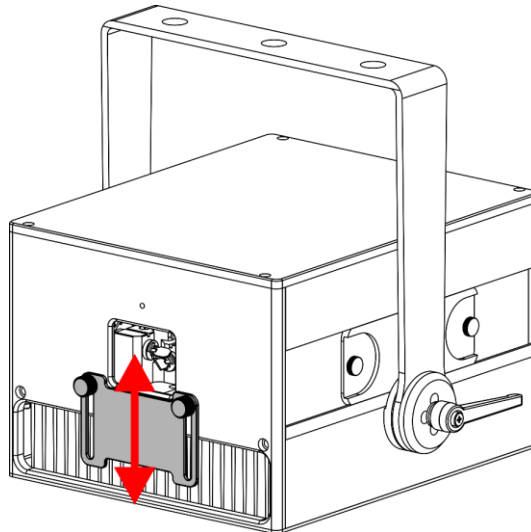

Fig. 12
- 01) Turn the 2 **masking plate adjustment screws (07)** counterclockwise to release them.
- 02) Slide the **aperture masking plate (06)** up or down to adjust its position (see Fig. 12).
- 03) Turn the 2 **masking plate adjustment screws (07)** clockwise to tighten them. Make sure that you do not overtighten them.